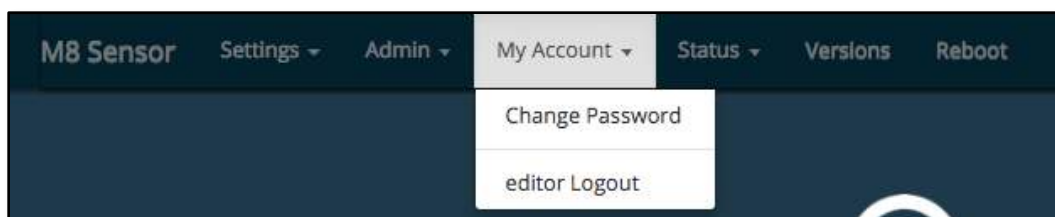

Figure 34. Web Server: My Account Tab's Change Password and editor Logout Items
1. Select the *editor Logout* item (Figure 34) from the My Account tab. The changes you made and submitted through the Settings tab will be used the next time a connection to the sensor occurs.